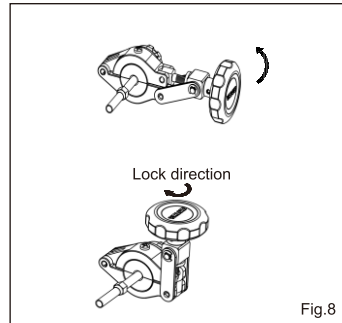

Fig.8
2.1.2 Ensure the tube is placed properly and locked. (Fig.8)